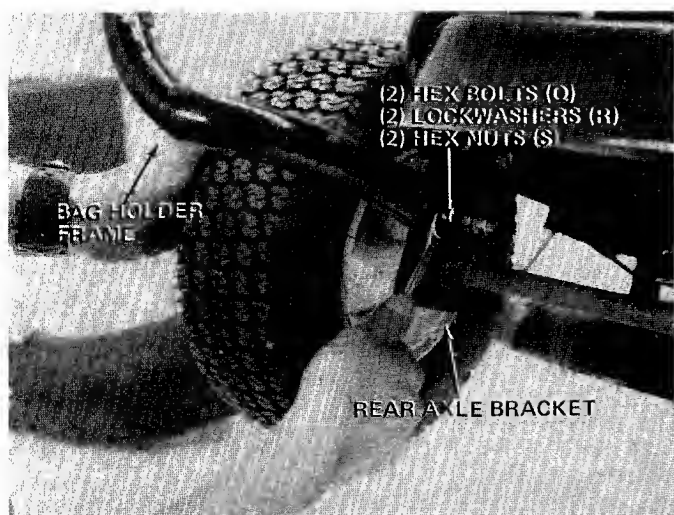

FIGURE 11
12. Place the bag holder frame assembly at the rear of the rider and line up the holes in bag frame with holes in rear axle bracket. See figure 11. Secure frame to axle bracket with four hex bolts (Q), lock washers (R) and hex nuts (S). Tighten bolts and nuts securely.